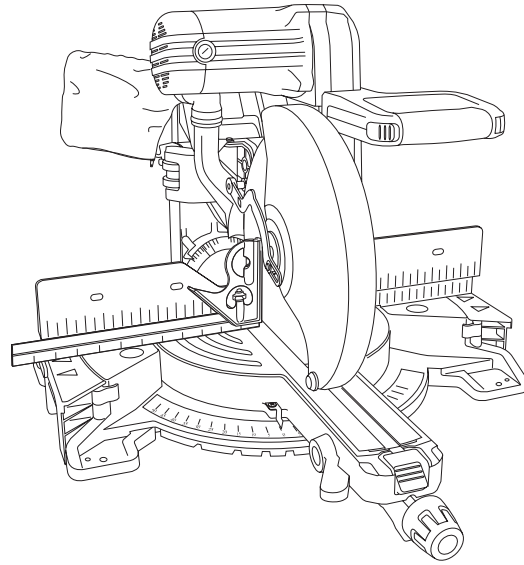

Figure 22
1. Hold the saw head assembly down and push in the head assembly lock pin (item 43 – page 9) to keep the saw in the DOWN position.
2. Slide the head assembly completely to the back and engage the lock lever (item 27 – page 9) by lifting up the finger tab.
8. Use a combination square to check that the blade is 90° (square) to the table. Place the square’s ruler edge against the table and slide it to contact the blade with the vertical side of the square’s head (see Figure 22).
4. Place combination square on table and against blade (see Figure 22).
8. Adjust bevel scale pointers (item 36 – page 9) to be in line with the bevel scale’s 0° lines.